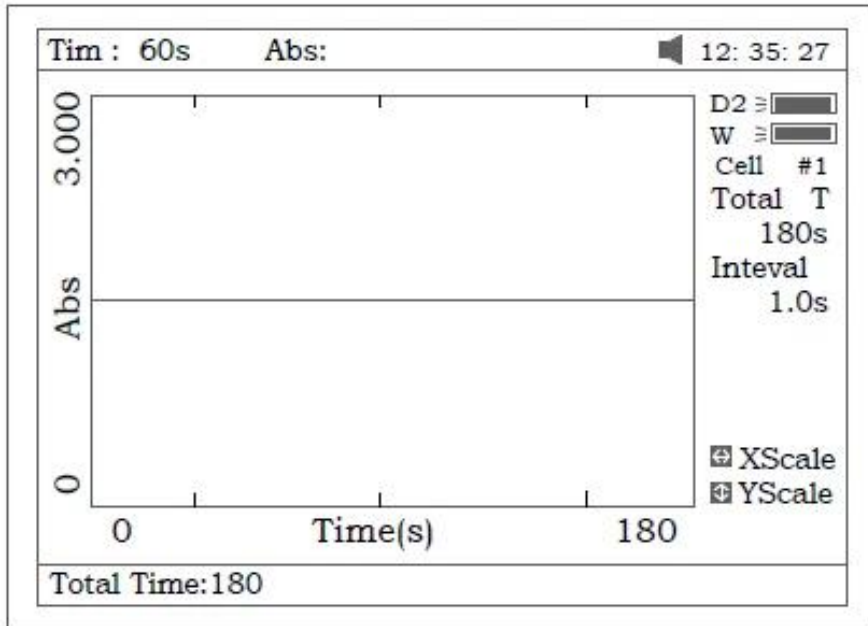

Figure 54
1. Press **F1** to set "Total Time", "Delay Time", "Time interval", and input the value by pressing the numeric keypad (Fig 54).